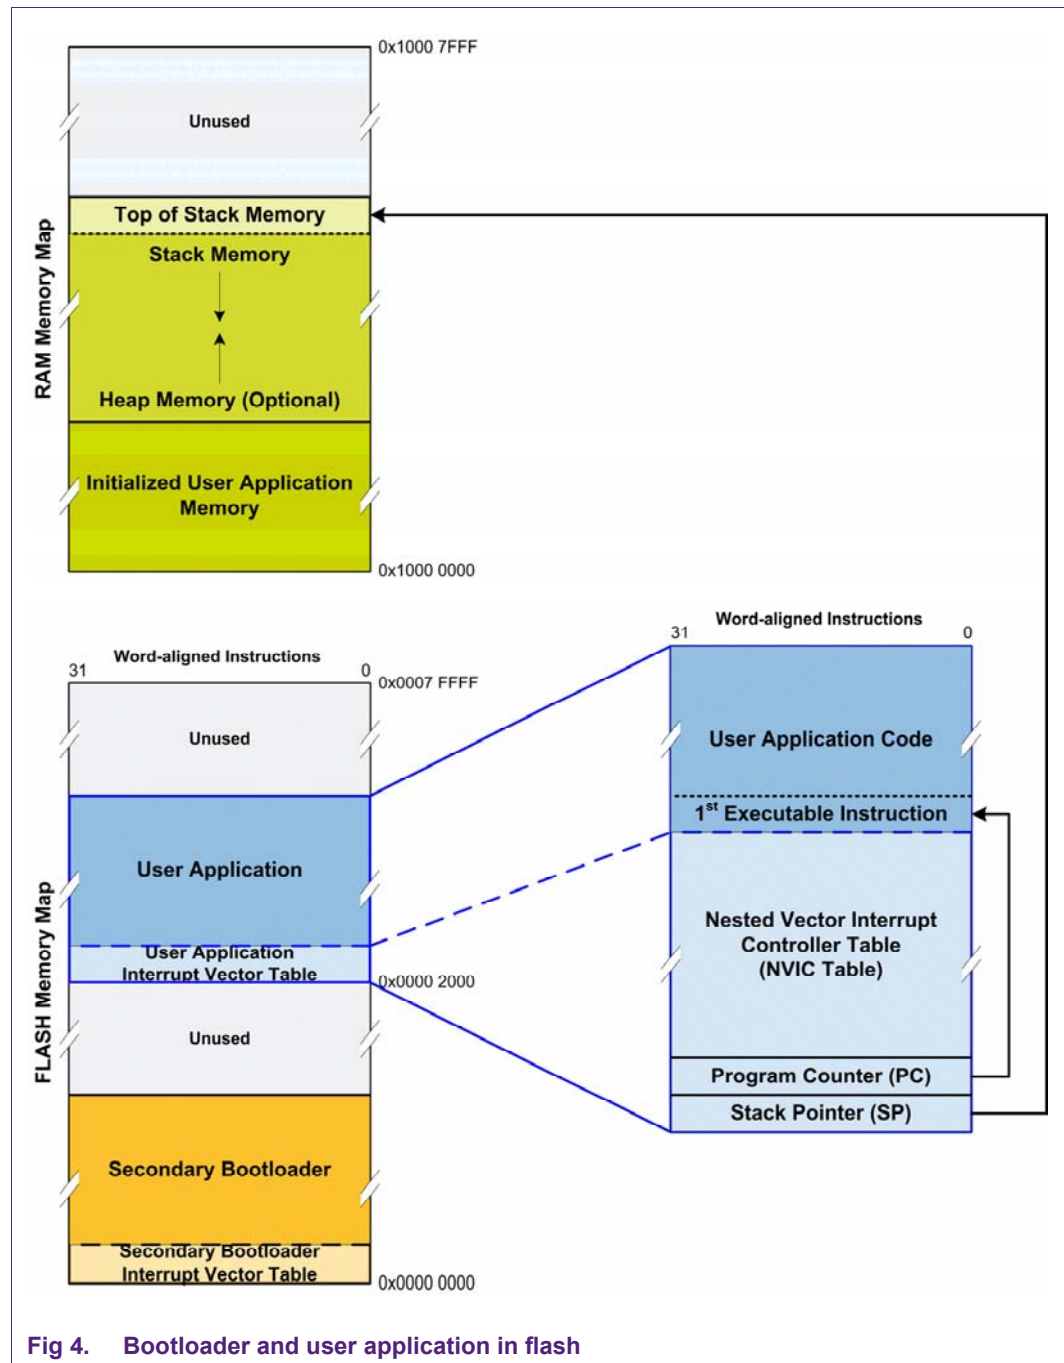

Fig 4. Bootloader and user application in flash
The secondary bootloader is placed at the starting address 0x0 so that it will be executed by the LPC1700 after reset. The USB communication within the bootloader utilizes interrupts and therefore its vector table as shown in Fig 4.
For efficient use of flash space, the user application should be flashed into the next available empty sector after the bootloader. Note that the user application will also contain its own interrupt vector table as shown in Fig 4.
If the center joystick button is not depressed, the secondary bootloader will start the execution of the user application. Execution of the user application is performed by updating the stack pointer (SP) and program counter (PC) registers. The first two 32-bit words of a binary image contain new SP and PC values that are to be loaded into their respective registers. See Fig 4. The SP points to the new location where the user application has allocated the top of its stack (the stack grows downwards in memory). The PC on the other hand contains the location of the first executable instruction in the user application. From here on the CPU will continue normal execution and initializations specified on the user application.
See Fig 4 for an illustration on how the user application is stored relative to the secondary USB bootloader.